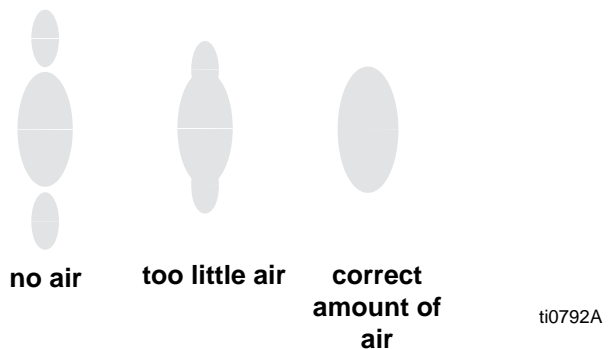

FIG. 7
7. See FIG. 7. Set atomizing air pressure at about 5 psi (0.35 bar, 35 kPa) when triggered. Check spray pattern, then slowly increase air pressure until tails are completely atomized and pulled into spray pattern. Do not exceed 100 psi (0.7 MPa, 7 bar) air pressure to gun.